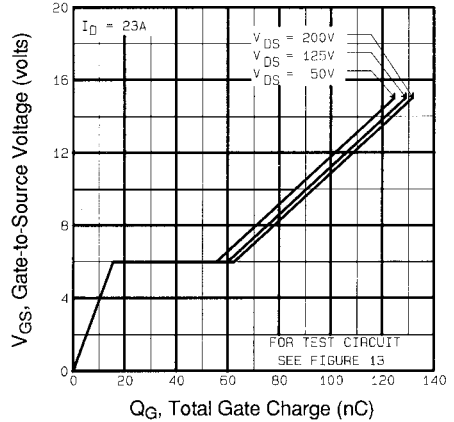

Fig 6. Typical Gate Charge Vs. Gate-to-Source Voltage
| Q_{gd} | Gate-to-Drain ("Miller") Charge | — | — | 71 | | $V_{GS}=10V$ See Fig. 6 and 13 ④ |